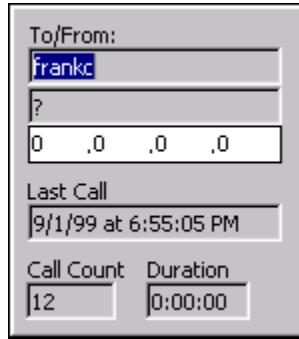

Figure 14. The Call Information Screen
5. Press the **Send** key. The Call Information screen displays (see Figure 14).